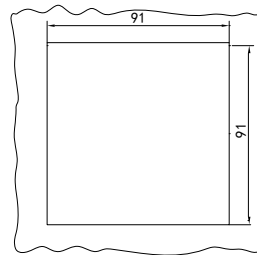

Figure 1: Cut in the panel
1.- Make a cut in the panel, according to the dimensions in **Figure 1**